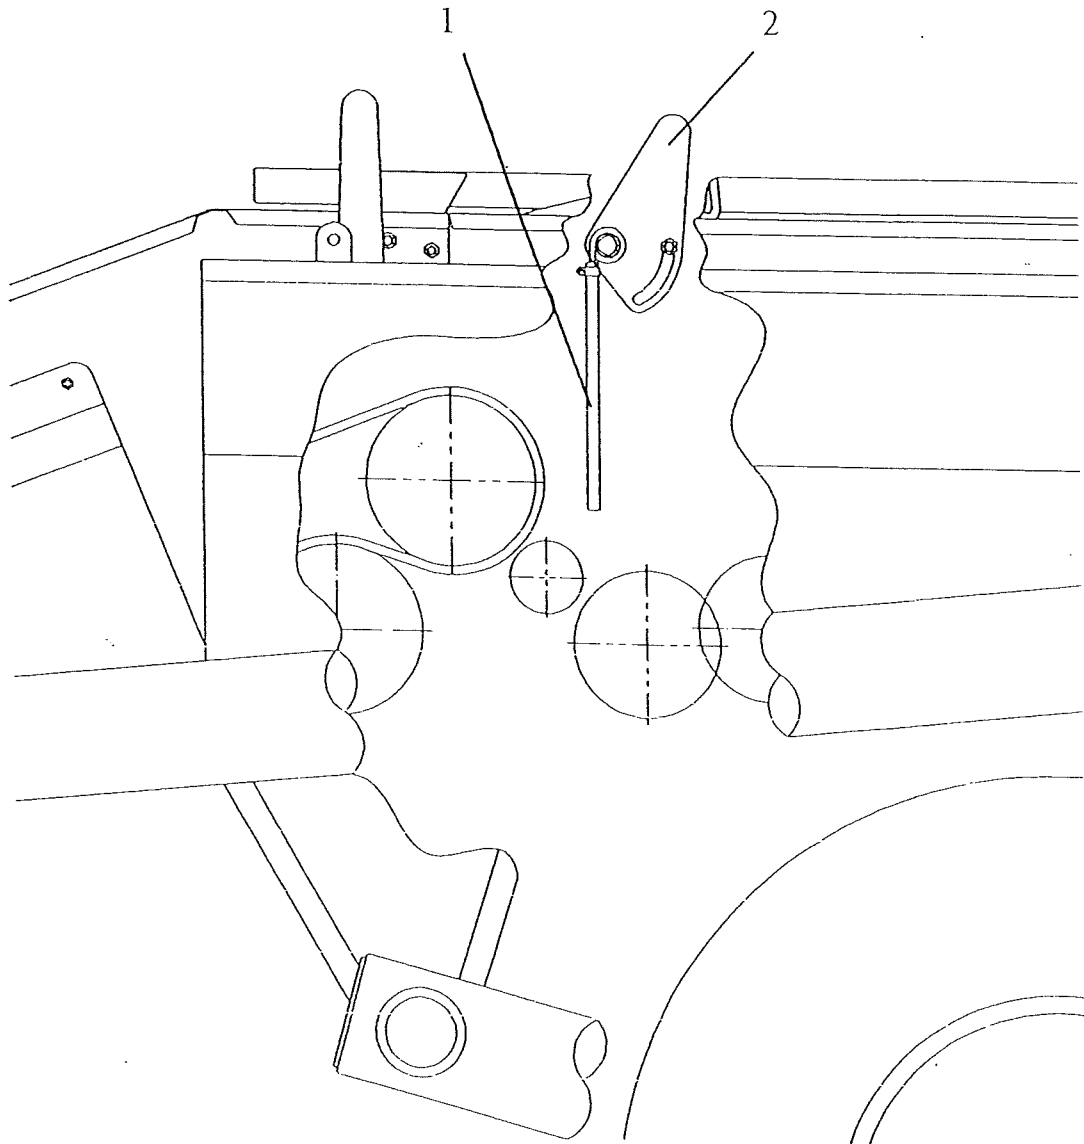

Fig 7.5
The finger assembly (fig 7.5 item 1), is adjustable for angle by means of a lever positioned on the left hand side of the assembly (fig 7.5 item 2). When the lever is in the forward position the haulm fingers are out of work. Moving the lever rearwards lowers the fingers towards the crop and haulm passing over the web. Adjustment should be made such that the fingers are lowered sufficiently to guide the haulm, without interfering with the crop passing by them.